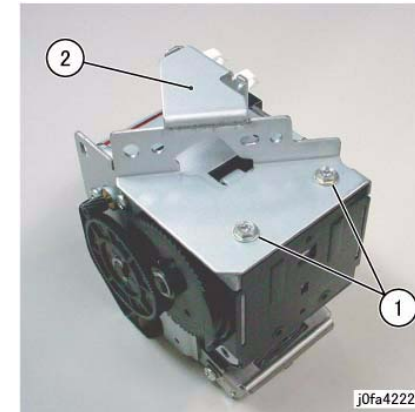

Figure 2 Removing the Bracket
6. Remove the Bracket from the Staple Assembly (Figure 2):